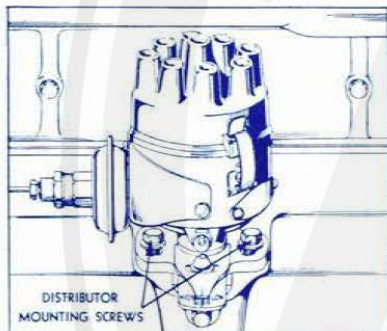

Fig. 5. Pointer Position—Regular Gasoline
7. Observe position of pointer index line. This line should be directly opposite line on the scale. See Fig. 5. If lines do not coincide, loosen the pointer, lock screw with a  $\frac{3}{16}$ " Allen set-screw wrench, adjust pointer to correct position, and tighten the pointer lock screw.